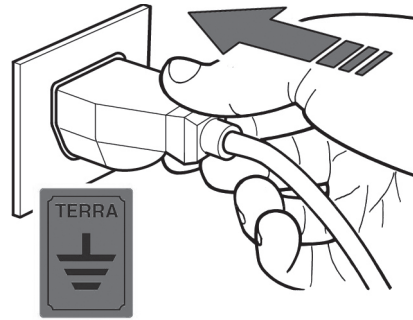

fig. 11
- It is imperative that the complete equipment is properly connected to an efficient earth connection (fig. 11).
- 2) Insert the power plug of the Showcase into the socket provided by the customer (fig. 11), making sure that it has earth contact and that there are no multiple sockets connected .